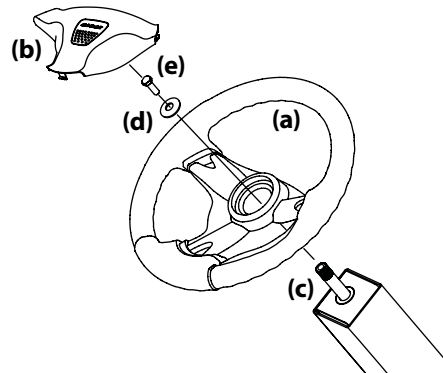

Figure 7
1. Remove the hardware for attaching the steering wheel (a) from beneath the steering wheel cover (b). Carefully pry off the steering wheel cover (b) to remove the hardware. See Figure 7.
2. With the wheels of the tractor pointing straight forward, place the steering wheel (a) over the steering shaft (c). See Figure 7.
3. Place the belleville washer (d) over the steering wheel (a) and secure with the hex screw (e). See Figure 7.
4. Place the steering wheel cover (b) over the center of the steering wheel (a) and push downward until it "clicks" into place. See Figure 7.